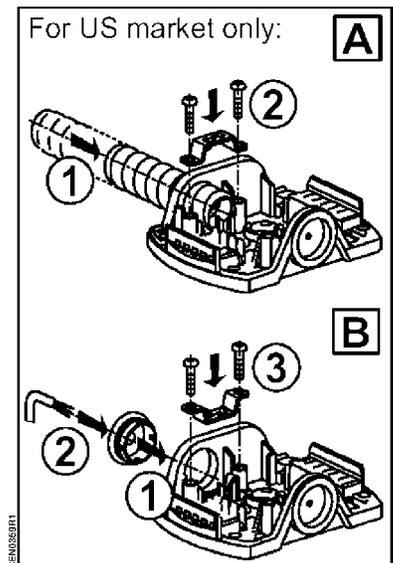

Figure 2. Conduit or Plenum Cable Wiring Installation.
**NOTE:** Figure 2 shows how to connect the conduit or plenum cable to the sensor head.